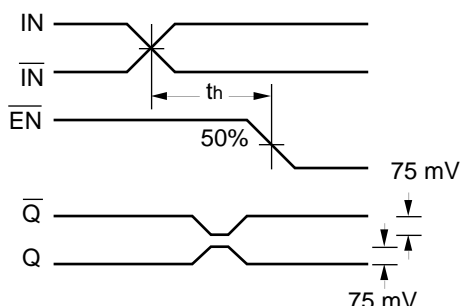

Figure 2. Hold Time
- The hold time is the minimum time that $\overline{\text{EN}}$ must remain asserted after a negative going IN or a positive going $\overline{\text{IN}}$ to prevent an output response greater than $\pm 75\text{mV}$ to that IN/ $\overline{\text{IN}}$ transition (see Figure 2).